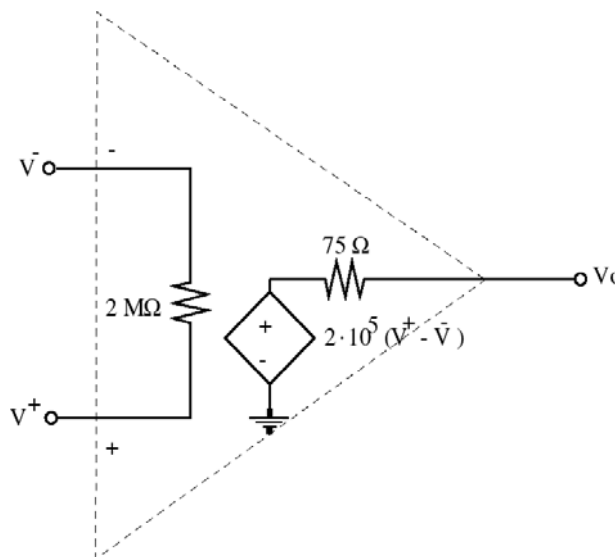

Figure 2: PSpice model for the 741 op-amp
Simulate the circuit you built and tested in Section 6.3 using PSpice and the op-amp model shown in Figure 2. Use a 1 volt peak-to-peak, 10 kHz sine wave as  $v_S$ . Include the PSpice output in your lab report. Compare the theoretical voltage gain, the voltage gain resulting from your PSpice simulation, and the voltage gain measured in lab.
**Note:** The input resistance of the op-amp model of Figure 2 is 2 M $\Omega$ . The PSpice designator for  $10^6$  is **MEG** not **M!** PSpice is not case sensitive and therefore takes M as m which designates  $10^{-3}$  not  $10^6$ .